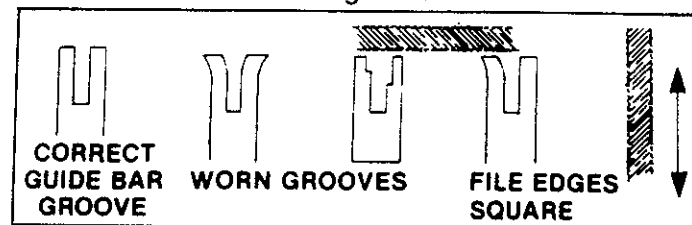

Figure 37
- d. Remove burrs by filing the side edges of the guide bar grooves square with a flat file. Figure 37.
- e. Restore square edges to an uneven rail top by filing with a flat file. Figure 37.